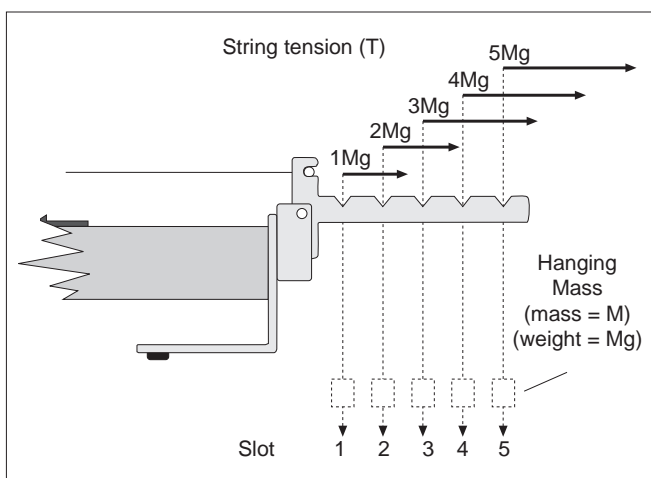

Figure 3 Setting the Tension
- ① Choose one of the ten strings and place the brass string retainer into the slot on the tensioning lever.
- ② Loosen the string adjustment screw and place the crimped lug that is attached to the other end of the string over the screw head, as shown.
- ③ Tighten the string adjustment screw until the tensioning lever hangs level.
- ④ Place the bridges in any locations you wish, to determine the length of the string.
- ⑤ Hang a mass (approximately 1 kg) from the tensioning lever to produce the desired tension, then adjust the string adjustment screw as needed so that the tensioning lever is level. See Figure 3. (The lever must be level to accurately determine the string tension from the hanging mass.)
String tension is determined as shown in Figure 3. If you hang a mass “M” from slot one of the lever, the tension of the string is equal to Mg , where g is the gravitational constant (9.8 m/s^2). If you hang the mass from slot two, the tension equals $2Mg$; if you hang it from slot three, the tension is $3Mg$, etc.